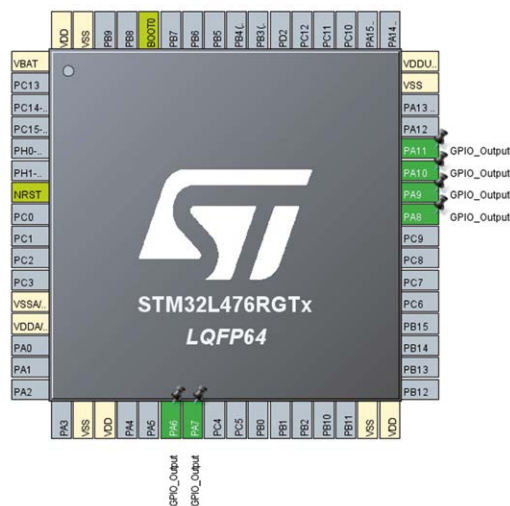

Figure 7.4: Configure GPIO.
- Configure PA6 to PA11 as digital output (Figure 7.4).